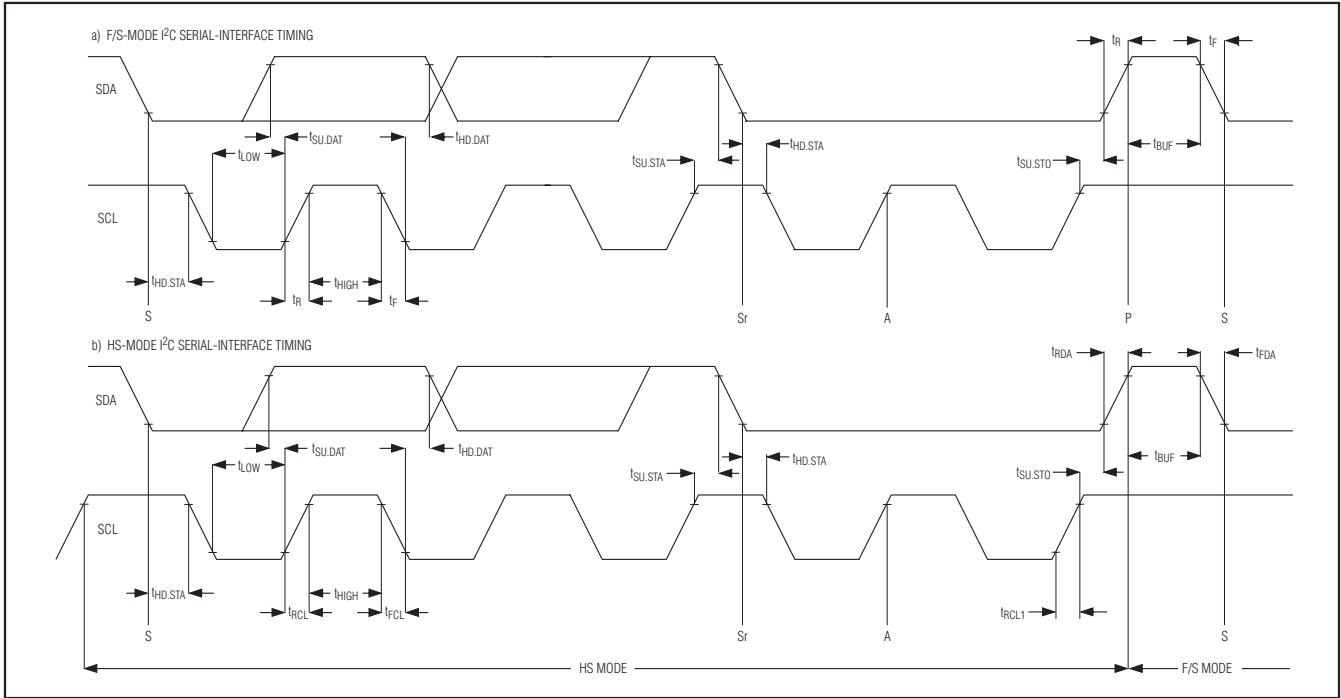

Figure 1. I2C Serial-Interface Timing
**Note 12:** A master device must provide a data hold time for SDA (referred to VIL of SCL) to bridge the undefined region of SCL's falling edge (Figure 1).
At power-up, the MAX11600-MAX11605 bus timing defaults to fast mode (F/S mode), allowing conversion rates up to 44ksps. The MAX11600-MAX11605 must operate in high-speed mode (HS mode) to achieve conversion rates up to 188ksps. Figure 1 shows the bus timing for the MAX11600-MAX11605 2-wire interface.